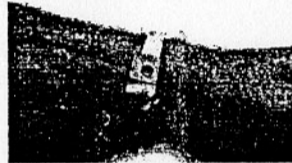

Figure 4
- 5) Once correct band adjustment is made, double the remaining portion of the band over the rivet, then secure it with the locking tab, Fig. 4.